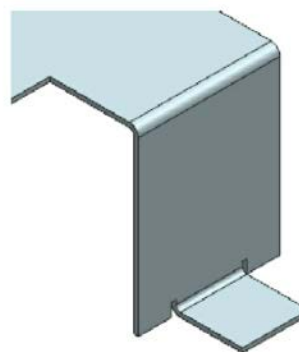

Figure 14-109 The centered flange
7. Enter **15** in both the **Width** and **Length** edit boxes of the **Flange** dialog box, and choose the **Apply** button; the centered flange is created, as shown in Figure 14-109.